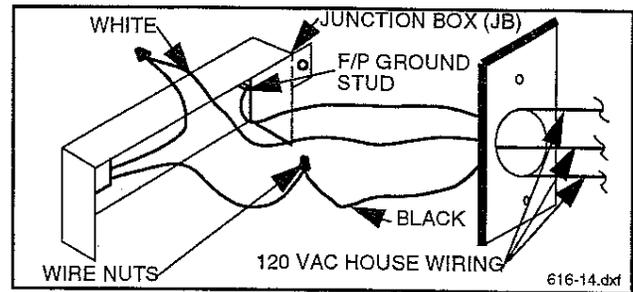

Fig. 14. Wiring diagram.
Using pliers, remove the nut from the grounding stud in the junction box and attach the green ground wire from the house power. Reinstall the nut securely. (See Fig. 14.)
Attach the white wire from house power to one (1) wire of the receptacle and secure within a wire nut. Attach the black wire from the house power to the other wire of the receptacle and secure within a wire nut. (See Fig.14.)